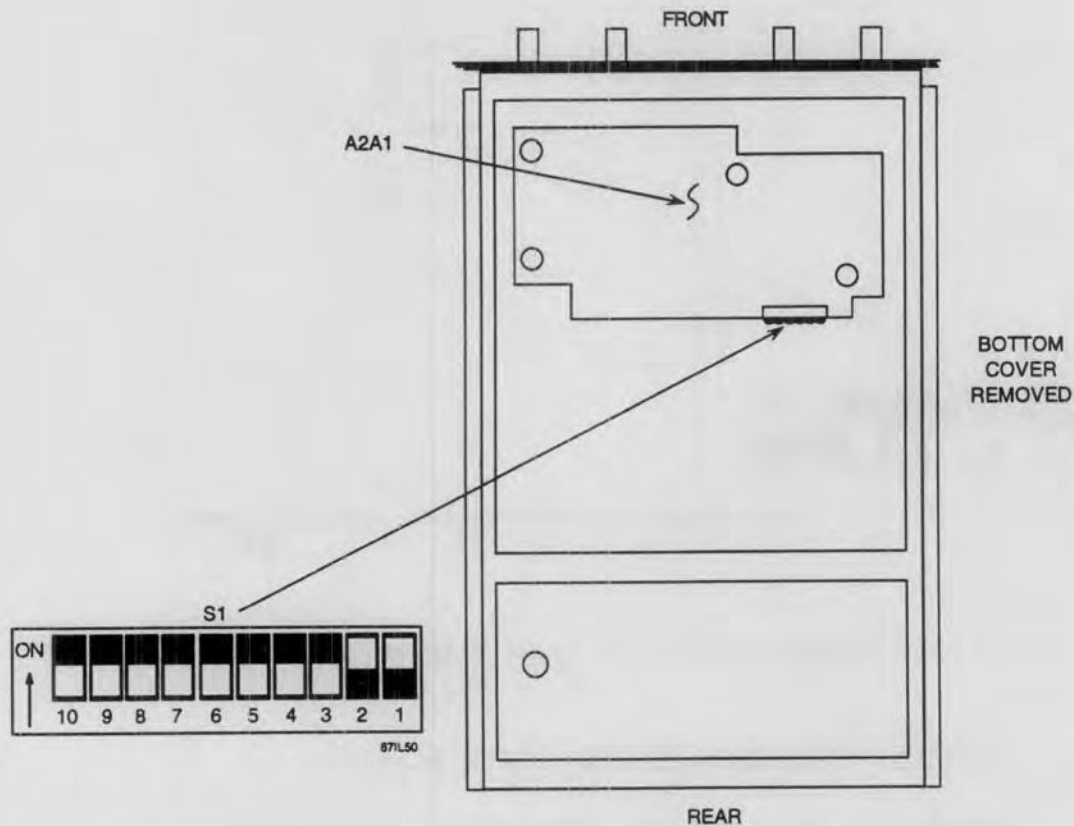

Figure D-5. Location of DSO1 DIP Switch S1 in the WJ-8712, WJ-8712A and WJ-8712P
- b. Remove twelve (12) flat-head screws from the bottom cover and remove the bottom cover.
- c. Locate S1 on the A2A1 assembly (refer to **Figure D-5**).
- e. Replace the bottom cover and secure in place with the twelve (12) screws removed in step b.